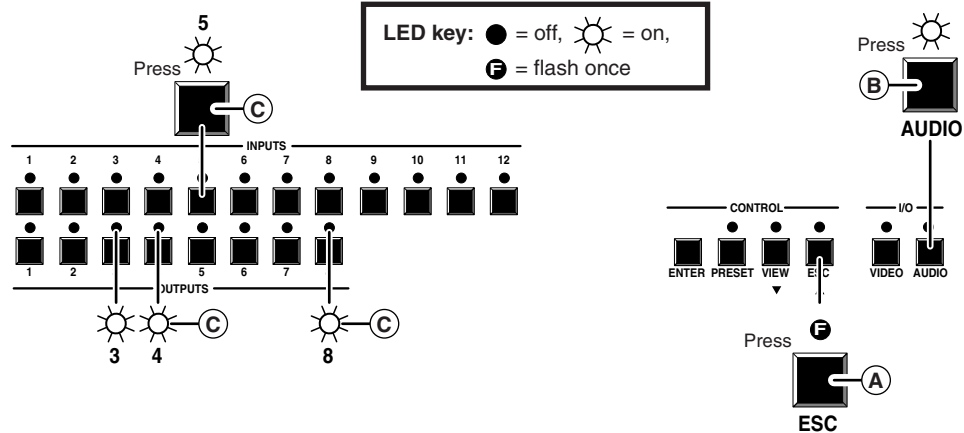
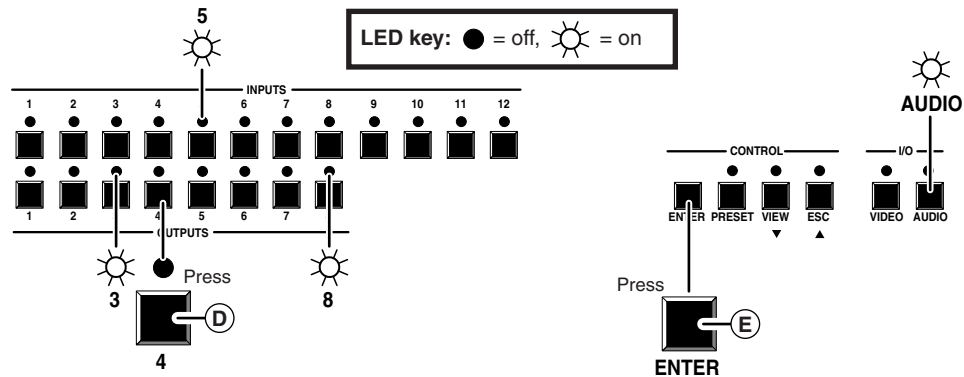

Figure 3-5 — Example 3: Selecting audio and selecting input 5
Figure 3-6 — Example 3d: Removing an audio tie
See figure 3-5 and figure 3-6 and the following steps for an example in which an existing audio tie is removed from the current configuration on a 12x8 Matrix 50 switcher with audio.
- Ⓓ Press and release the output 4 button (figure 3-6). The output 4 LED turns off, while the output 3 and output 8 LEDs remain lit.